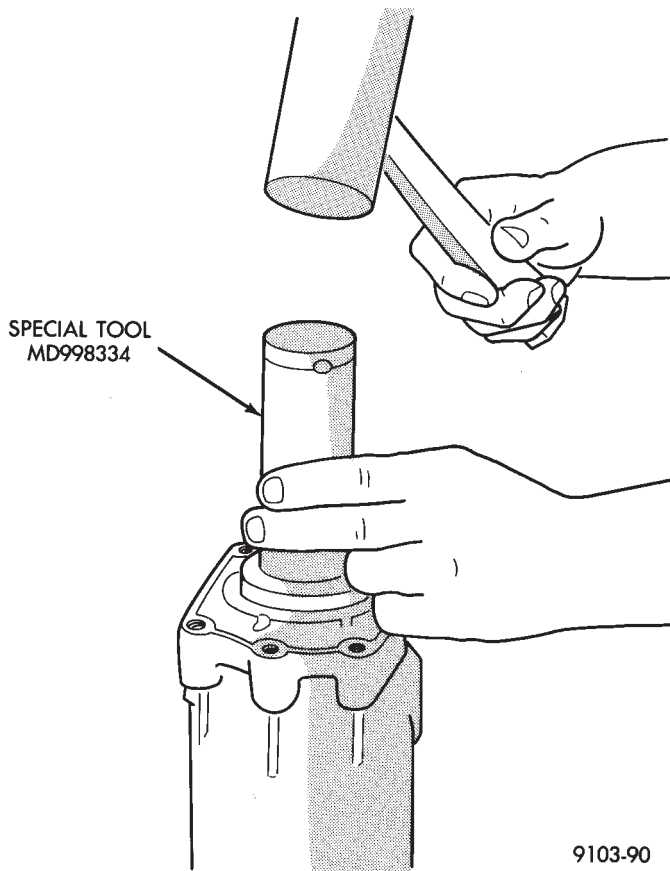

Fig. 24 Installing New Seal
- (1) Install new seal with special tool MD998334. Seal should be flush with outside edge of housing (Fig. 24).
- (2) Install rear torque shaft bearing and snap ring.
- (3) Install overrunning clutch case onto torque tube. Tighten bolts to 28 N•m (250 in. lbs.).
- (4) Install torque shaft snap ring.